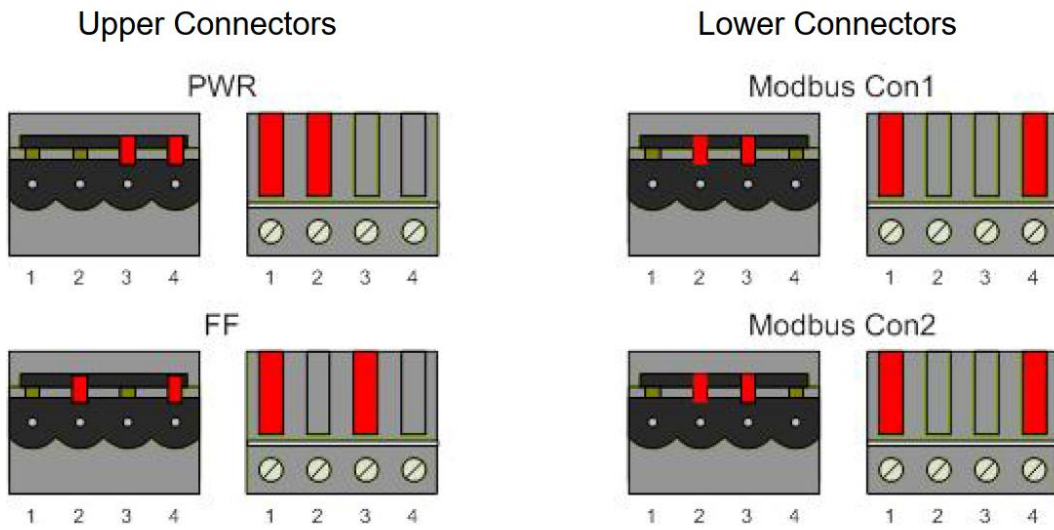

Figure 6 Connector Keying
Each Channel supports three types of traffic, transfer of measurements (PV), transfer of status/diagnostic information and Modbus instrument read/write services. The principle diagram for the communication is shown in Figure 6.